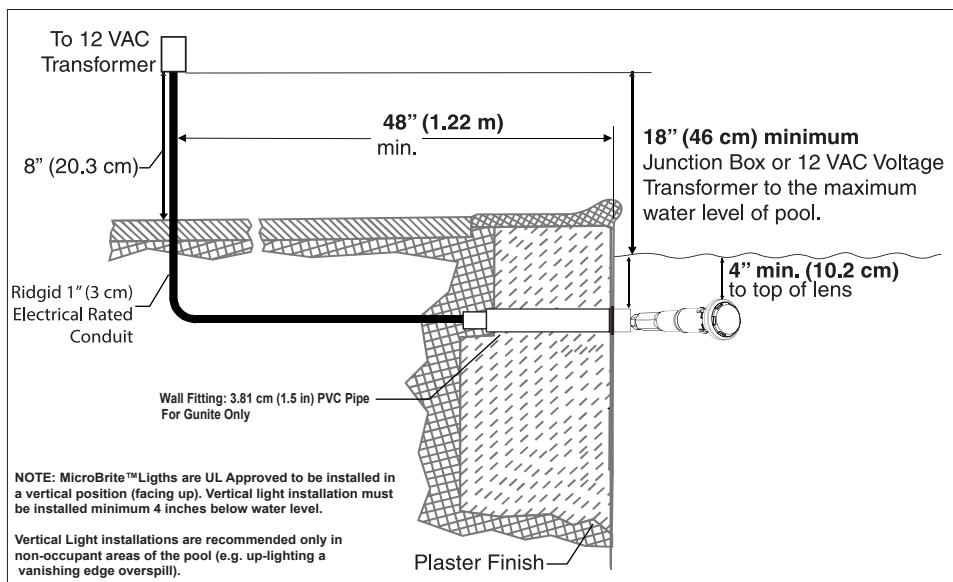
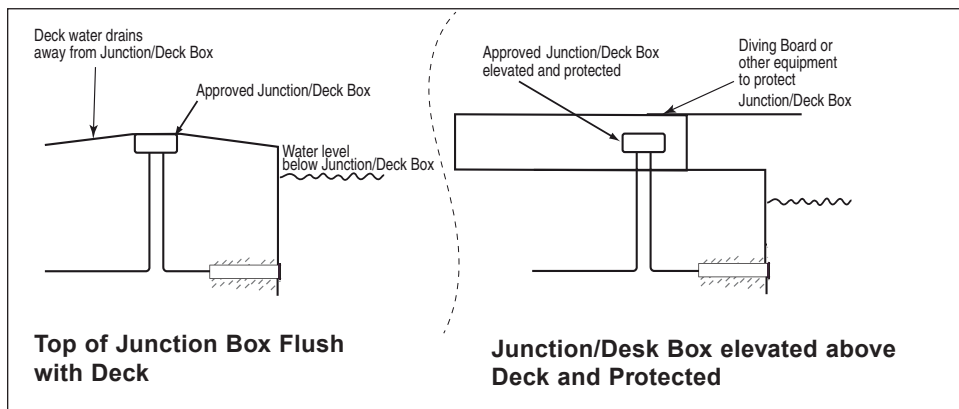

Figure 1.
Figure 2, Canada.
**BEFORE STARTING:** The following information describes the tasks that must be completed by the electrician *before* the light wall fitting is installed. See Figure 1 on page 7.
- The Junction Box and the low voltage transformer is located at least 4 (four) inches (10.16 cm) above ground level or eight (8) inches (20.3 cm) above maximum water level, whichever is higher. The Junction Box must be at least 48 inches (1.22 m) from the edge of the pool. See Figure 2 on page 8.
- The junction/deck box must be sealed to the conduit to prevent water from getting into the box, see Figure 2, below.
2. At the 12 VAC transformer or junction box, cut off any extra cord. Leave at least 15.2 cm (6 in) of cord in the Junction Box or transformer to facilitate the light installation wall fitting inspection. Cut off any extra cord. See Figure 1 on page 5, for junction box installation for USA, see Figure 2 on page 6 for junction box installation in Canada.
3. Connect the two (2) conductors to the corresponding circuit wires in the Junction Box. Secure the Junction Box cover.
- The Junction Box and the low voltage transformer is located at least 4 (four) inches (10.16 cm) above ground level or eight (8) inches (20.3 cm) above maximum water level, whichever is higher. The Junction Box must be at least 48 inches (123 cm) from the edge of the pool. See Figure 1 on page 8.
- The MicroBrite light wall fitting must be properly installed so that the top edge of the lens of the MicroBrite light is at least 4 inches (10.16 cm) below (not more than 48 inches (123 cm) below in Canada) the surface of the water in the pool or spa. See Figure 1 on page 8.